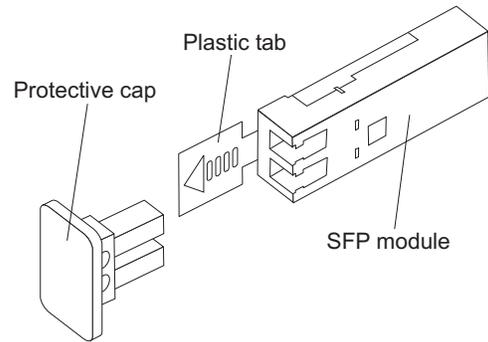

Figure 25. SFP module and protective cap
2. Remove the protective cap from the SFP module, as shown in Figure 25. Save the protective cap for future use.
2. If necessary, remove the protective cap from the SFP module, as shown in Figure 25 on page 47. Save the protective cap for future use.